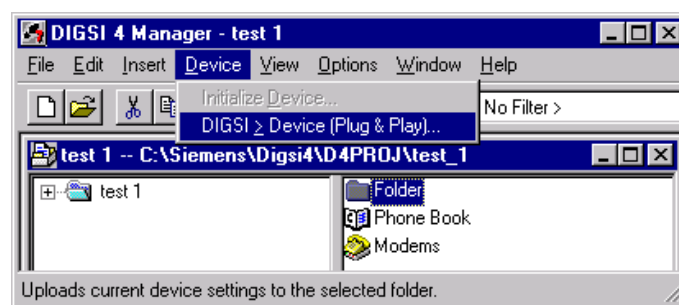
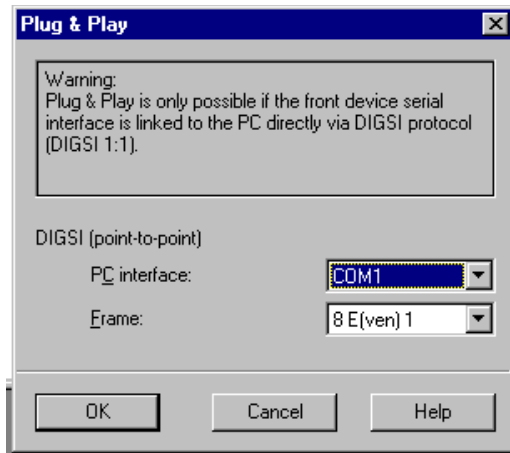

Figure 3-5 Window with selection of **Plug and Play**
Figure 3-6 **Plug & Play** dialogue box for communication between device and PC
- ❑ Select **Folder** by clicking on the item in the newly opened window. Then click in the menu bar the item **Device** and select the option **DIGSI > Device (Plug & Play)**, as shown in Figure 3-5. The **Plug & Play** dialogue box opens, as shown in Figure 3-6.